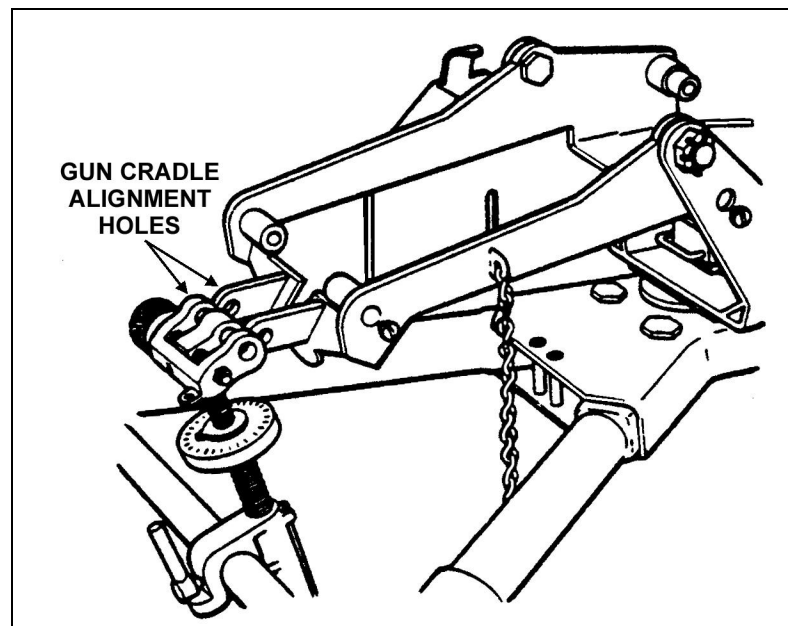

Figure 3-6. Alignment of gun cradle to T&E mechanism.
(3) Align holes in the upper elevating screw yoke of the T&E mechanism with the rear holes in the gun cradle (Figure 3-6).